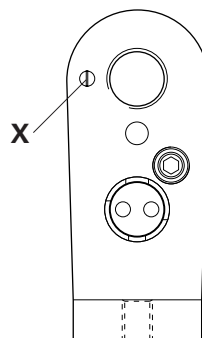

Figure 9
**All cavities are hermetically sealed. If the sealing rod is missing from the channel inside the shaft, coating powder can enter and interrupt the grounding of the SuperCorona. The channel can be cleaned after the screw (X- see Fig. 9 below) has been removed. The screw must be replaced afterwards, otherwise the grounding of the SuperCorona is not possible. There is also a similar screw in the PG 2-AX.**